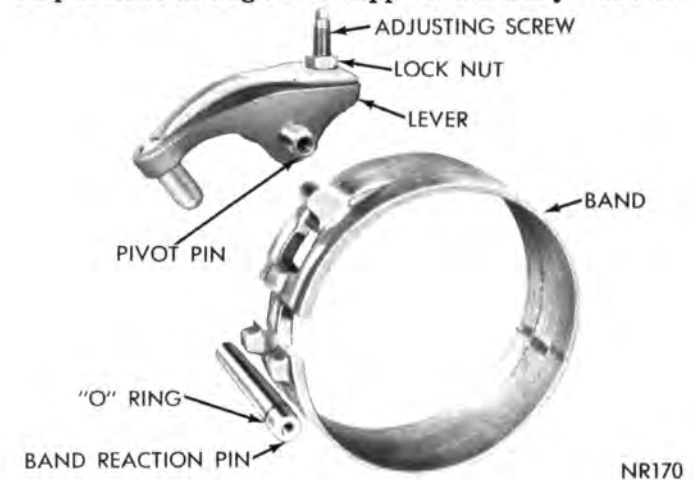

Fig. 99—Double Wrap Band and Linkage—Disassembled (A-904-LA Transmission only)
- (2) Place band into case resting two lugs against band reaction pin (Fig. 99).
- (3) Install low-reverse drum into overrunning ADJUSTING SCREW AND LOCKNUT
- (4) Install operating lever with pivot pin flush in case and adjusting screw touching center lug on band (Fig. 99).